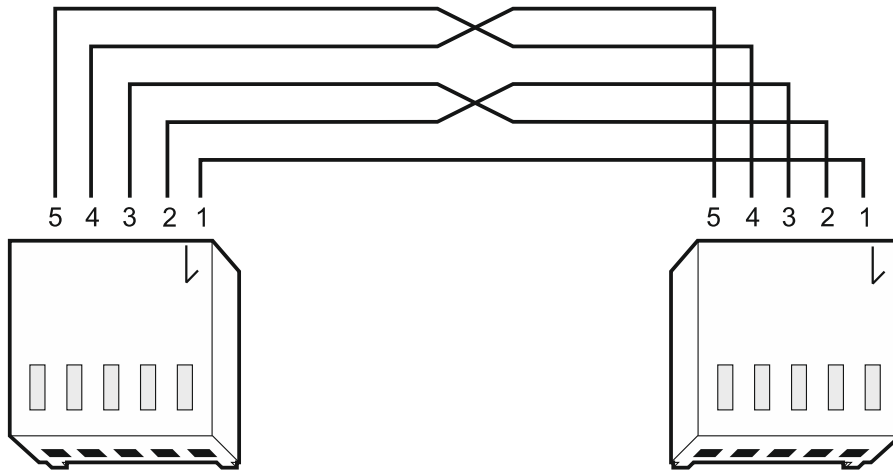

Fig. 3. Wiring diagram of the cable connecting RS-232 ports of ETHM-1 Plus module and INTEGRA control panel with PIN5 connector socket.
- INTEGRA with connector socket of PIN5 type: **PIN5/PIN5** (Fig. 3)